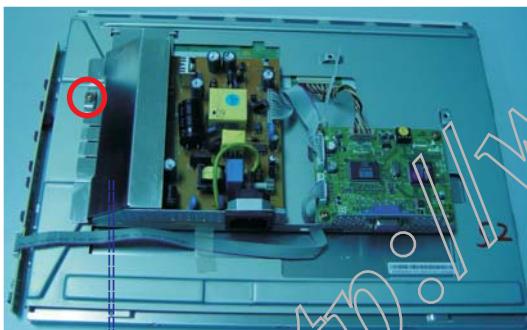

Fig. 9
Step 3: Remove the Back Cover shown as Fig. 9 & Fig. 10.